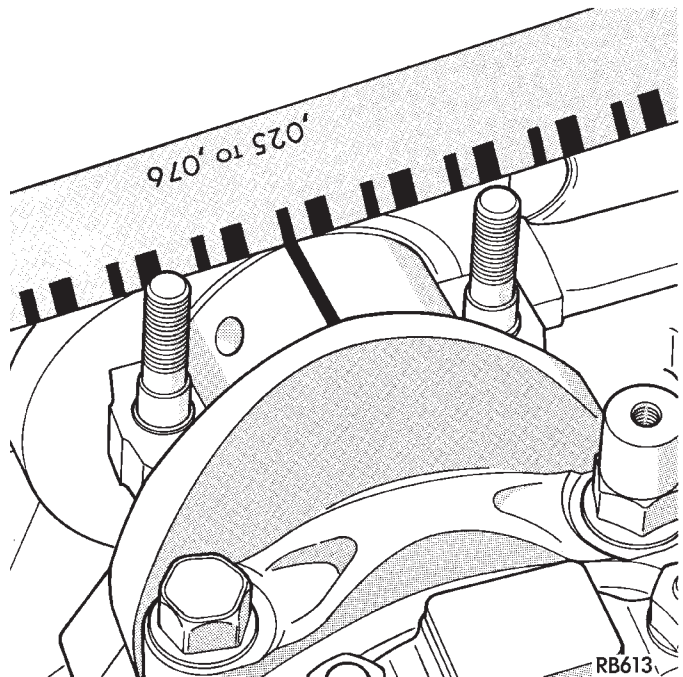

Fig. 16 Checking Connecting Rod Bearing Clearance
(1) Follow procedure specified in the Standard Service Procedure Section for Measuring Main Bearing Clearance and Connecting Rod Bearing Clearance (Fig. 16).